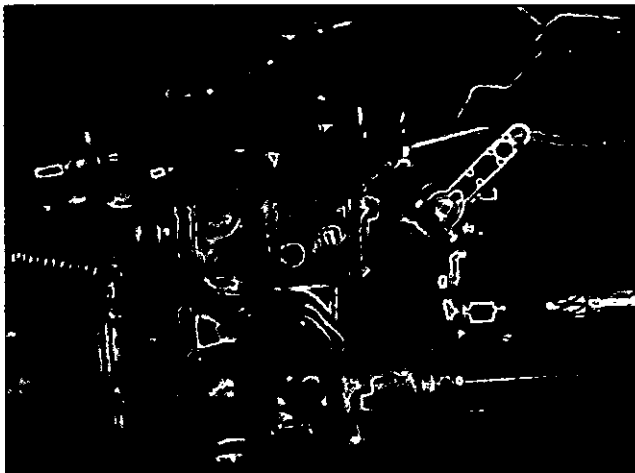

Fig. 10-28, (F5336). Check the pressure valve in the VS housing.
2. Loosen the adjustment screw locknuts of the top VS throttle shaft, Fig. 10-28.